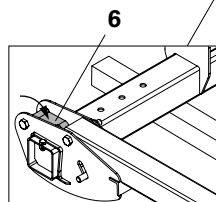

Fig. 12a
5. Bring locking pawl into securing position. (Fig. 12a)